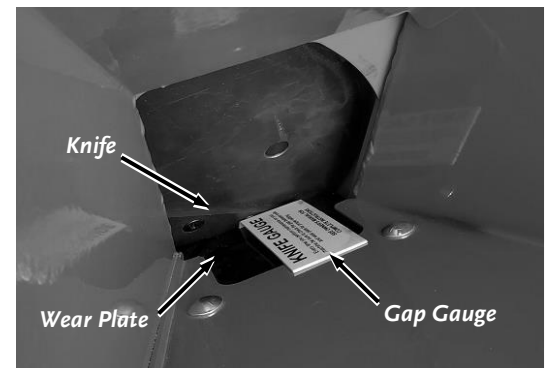

Figure 30
3. Using a stick, rotate the Chipper Disk until the Knife is opposite the Wear Plate (**Figure 30**).